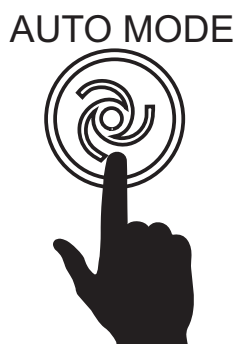

Figure 166. Auto Mode Button
- Press the **Auto Mode button** (Figure 166).